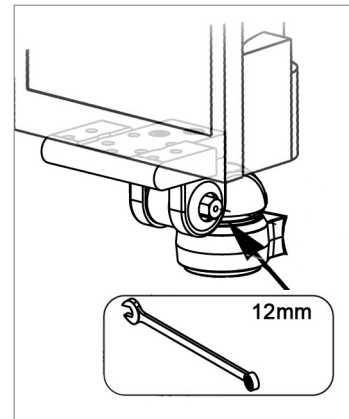

Figure 8
- vi. Verify that the **TILT ANGLE** is secure by grasping the **MOUNTING SHELF** and attempting to adjust the tilt. If movement is detected, tighten the 2x **TILT TENSION SCREWS** to the desired resistance (**Figure 8**).